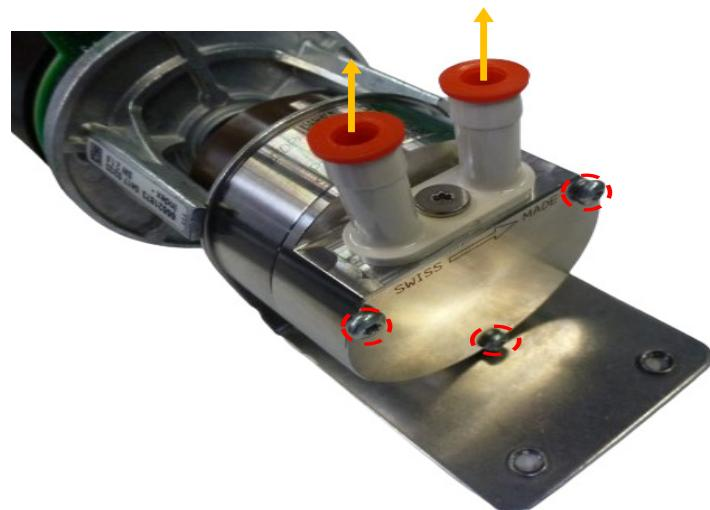

Fig. 3-17 Assembly group gear pump
13. Join gear pump and motor (new 3 screws, see Fig. 3-17).